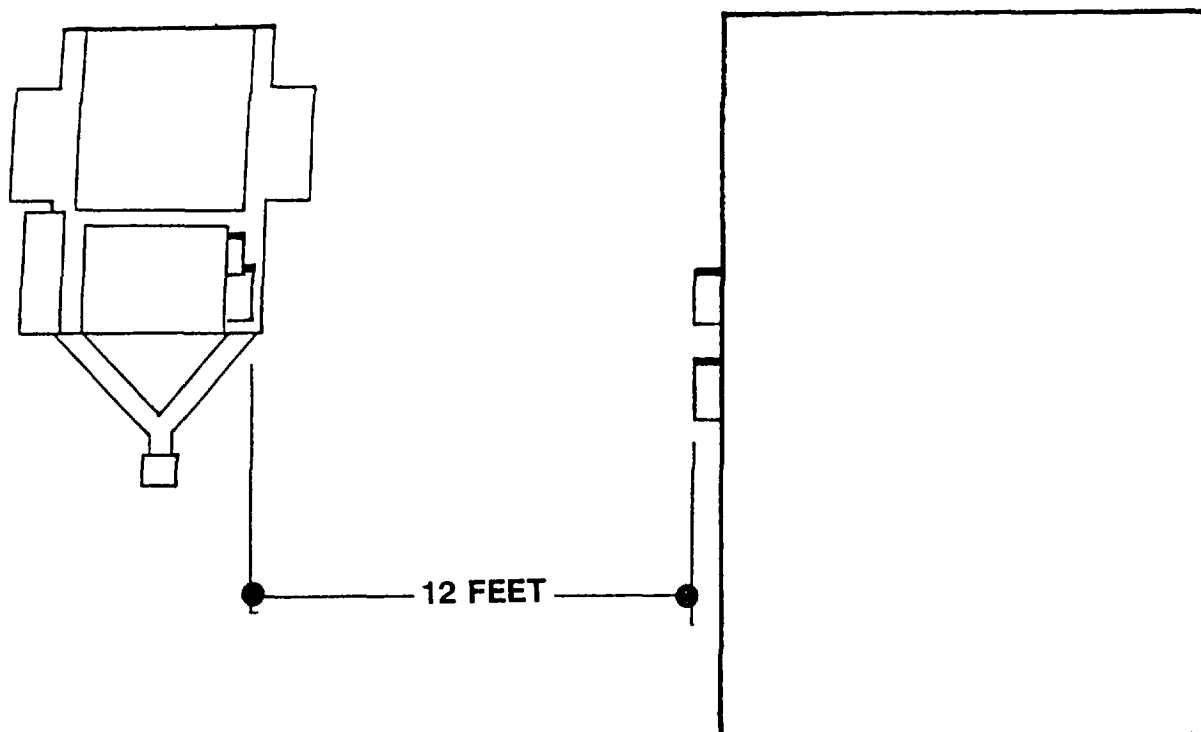

Figure 4-2. Site Preparation.
- a. Position trailer-mounted, generator-set powered, air conditioner so that rear end of trailer is on level ground and air conditioner duct adapters are within 12 feet of shelter duct adapters. Refer to figure 4-2.